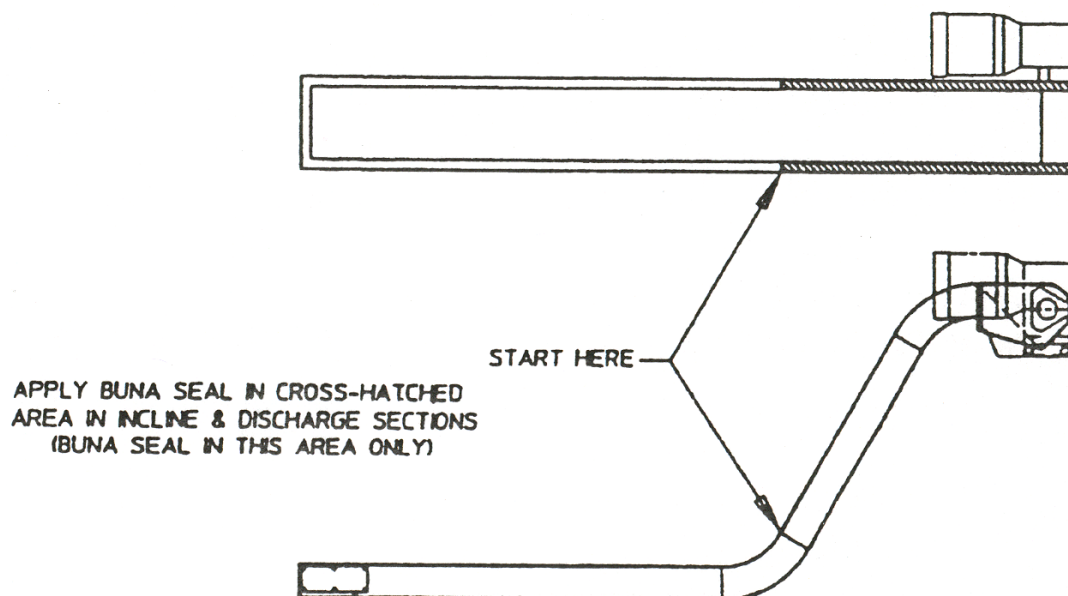

FIGURE 2. APPLYING BUNA SEAL TO FRAME
5. Apply Buna Seal on top of the adhesive strip in the incline and discharge section starting at the top of the lower curve (See fig. 2). No notching is required in this section.